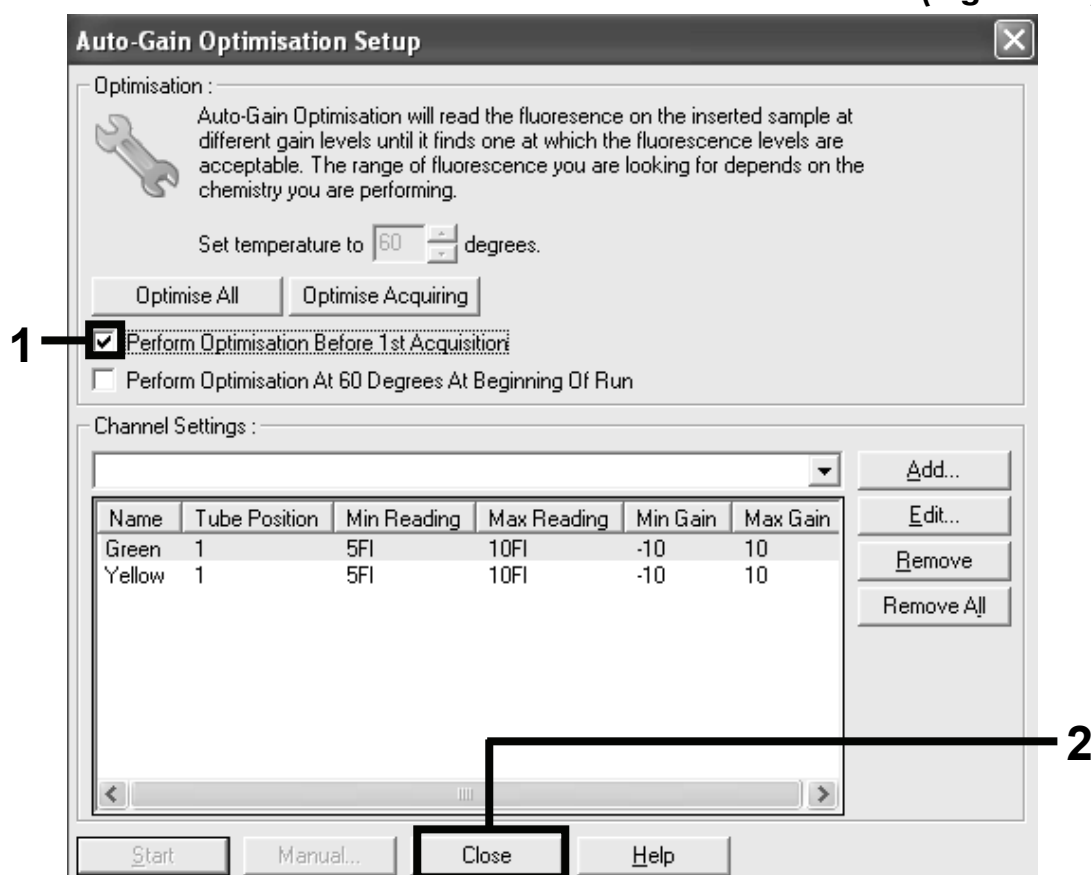

Figure 27. Selection of green and yellow channels.
21. Check the box for “Perform Optimisation before 1st Acquisition”, and then click the “Close” button to return to the wizard (Figure 27).